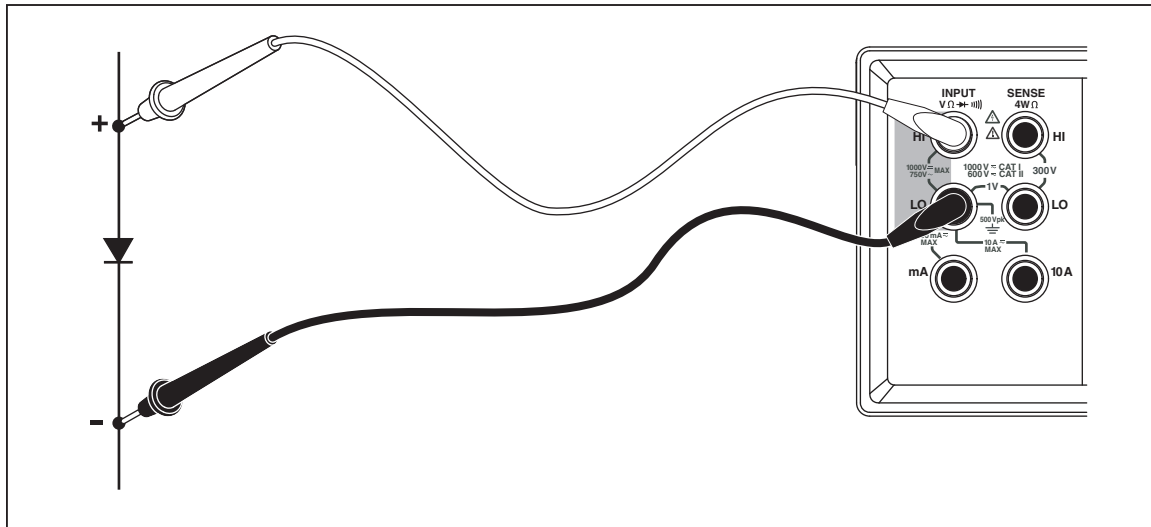

Figure 3-11. Diode Test
2. Connect the test leads between the Meter and the diode or transistor junction as shown in Figure 3-11.